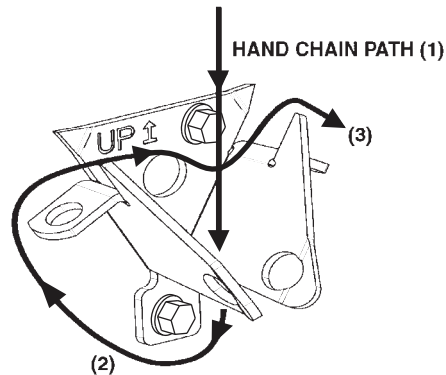

Figure 39
- Instruct door users to wrap hand chain as shown in Figure 39 below.